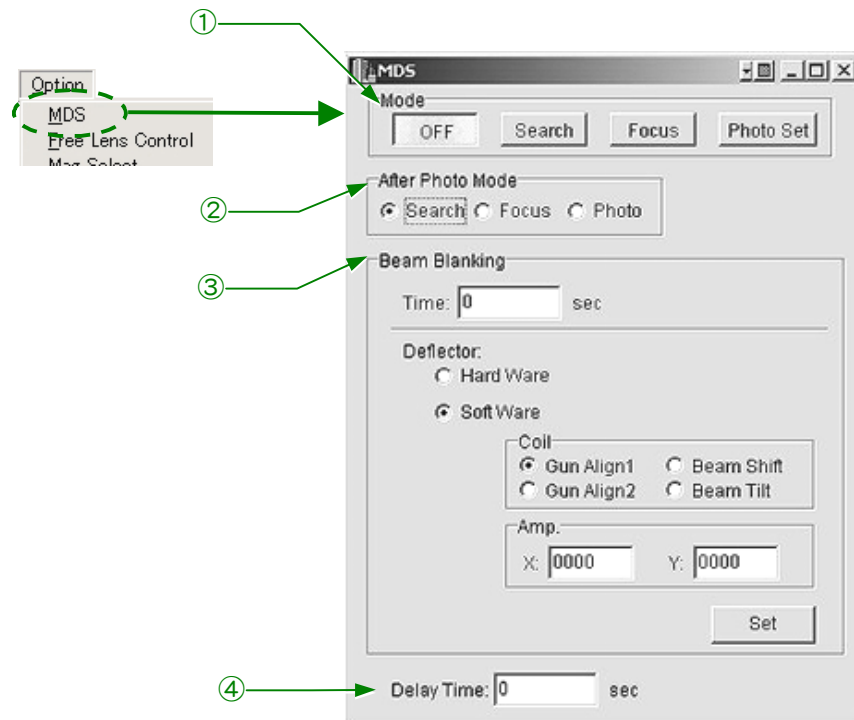

Fig. 5.57 MDS window
1. Select **Option** from the **TEM Controller** menu bar and click on **MDS** to open the **MDS** window (☞ Fig. 5.57).
- a. Click on the After Photo Mode Search radio button (☞ Fig. 5.57, ②); then enter the necessary information in the Beam Blanking Time, Beam Blanking conditions (☞ Fig. 5.57, ③) and Delay Time input boxes (☞ Fig. 5.57, ④).
- b.** Select **Photo Set** (☞ Fig. 5.57, ①) from the **MDS** window.
- 3.** Select **Search** (☞ Fig. 5.57, ①) from the **MDS** window.
- 5.** Select **Focus** (☞ Fig. 5.57, ①) from the **MDS** window.
- b.** Click on **OFF** (☞ Fig. 5.57, ①) in the **MDS** window to switch the mode from MDS to normal, if you want.